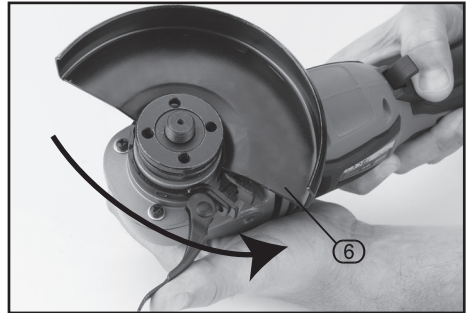

FIG.2
### 8.2 FITTING THE GUARD - FIG. 2
Position the guard (6) onto the grinder collar with the quick release lever in the open position (fig.2.) rotate the guard until it is in the correct position to line up the cutout, once fully located the guard can be rotated to any position\*. To remove, the guard must be rotated until the spigot lines up with the cutout again and\* then close the quick release lever to lock the guard in the correct position.